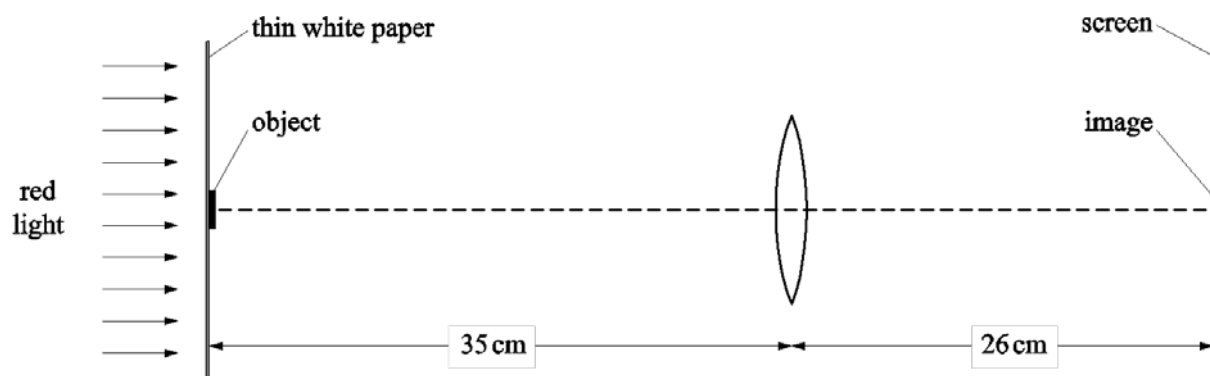

Fig. 1.1
- 2 A converging lens is used to form a real image of an object on a screen. The object consists of a black line marked on a sheet of thin white paper illuminated from behind with red light as shown in Fig. 1.1.